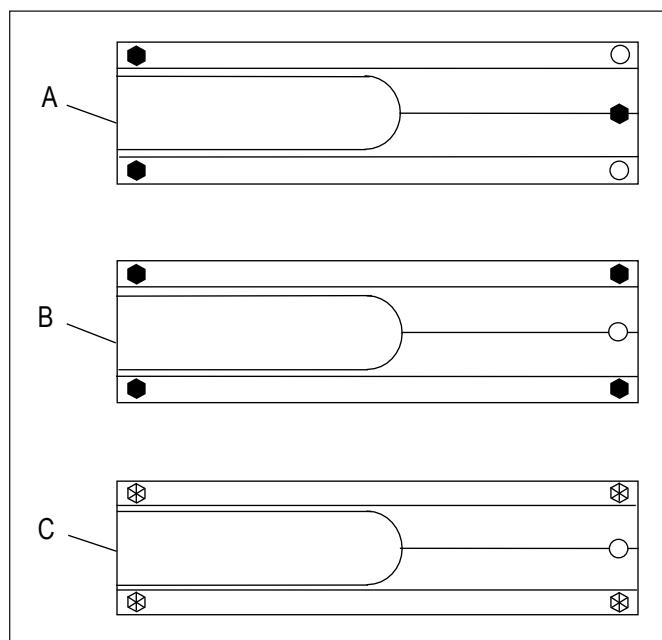

Fig. 4
In order to place the drive unit on plane surfaces, the support feet have to be arranged for three-point support (see arrangement A in Fig. 4):
For measuring cylindrical testpieces with diameters of more than 72 mm (2.835 in), the four-point support must be selected (see arrangement B in Fig. 4).
2. Insert the four screws which hold the support prism (see arrangement C in Fig. 4) and tighten them with the Allen wrench (A/F 2)